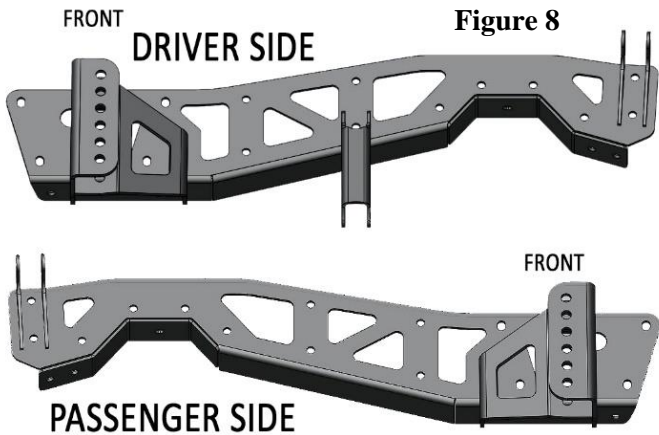

Figure 8
11. Identify the driver (left side) and passenger (right side) frame notch brackets. **(Figure 8)**